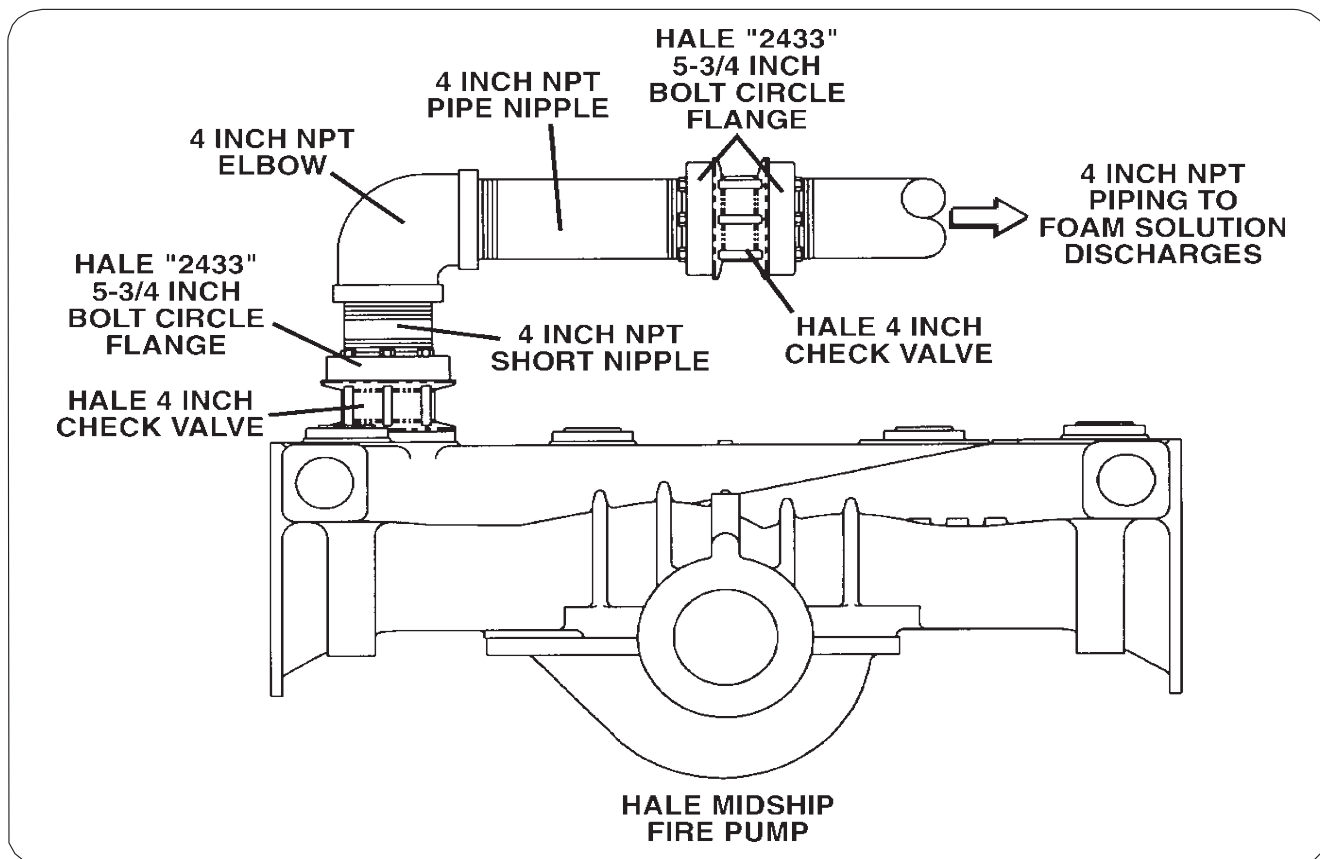

Figure 28: Typical 4 Inch Check Valve Installation (Midship Pump)
**Figure 28** shows a suggested installation arrangement using Hale 4" (102 mm) check valves, pipe and Hale 2433 flanges.